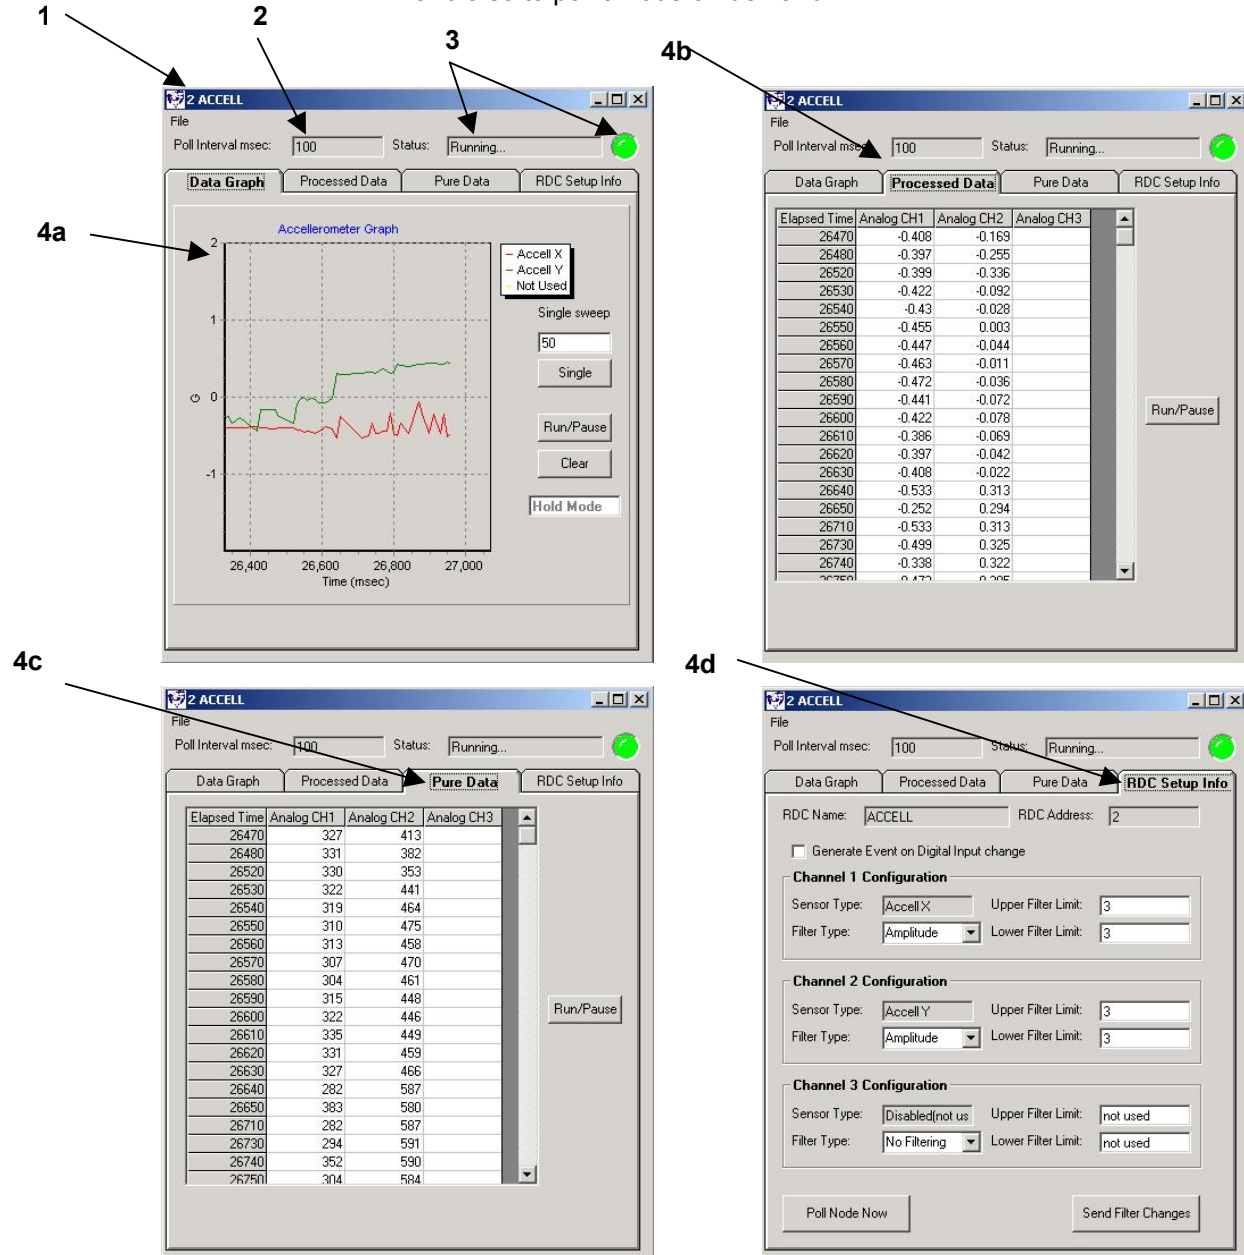

Figure 8
The Accelerometer and Pressure nodes operate in the same manner. The only difference is in the data itself. The Pressure node Window displays the data in pounds-per-square-inch (psi) units, and the Accelerometer data is displayed in gravities (G) units. Both nodes use milliseconds for the time base units. The main components of these Windows are (See Figure 8):